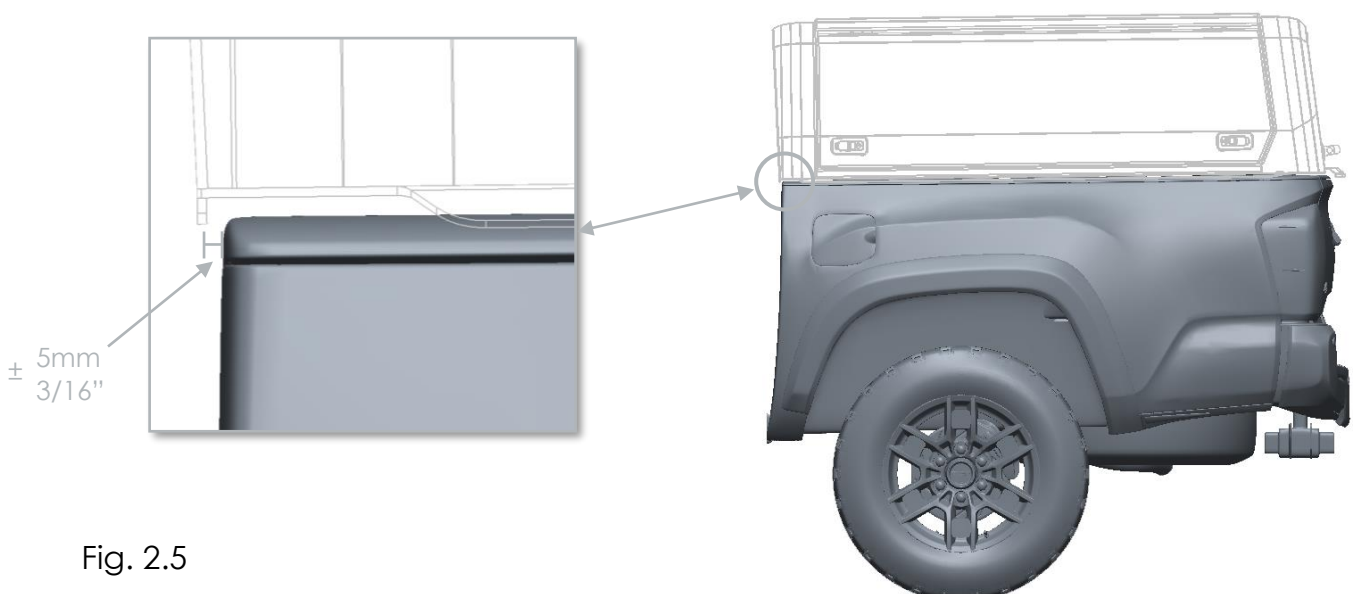

Fig. 2.5
- The bottom flange of the front panel should be approximately 5mm / 3/16" from the load bed's front panel edge. Fig. 2.5.